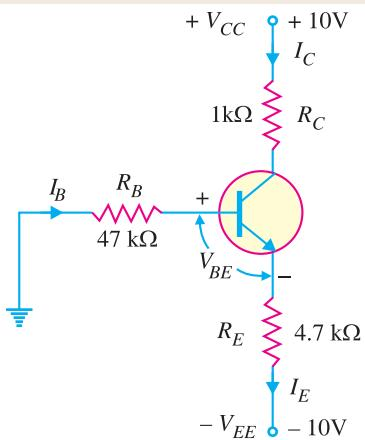

Fig. 8.42
**Example 8.26.** Determine the Q point of the transistor circuit shown in \*Fig. 8.42. Also draw the d.c. load line. Given  $\beta = 100$  and  $V_{BE} = 0.7V$ .
**Solution.** The transistor circuit shown in Fig. 8.42 may look complex but we can easily apply Kirchhoff's voltage law to find the various voltages and currents in the \* circuit.